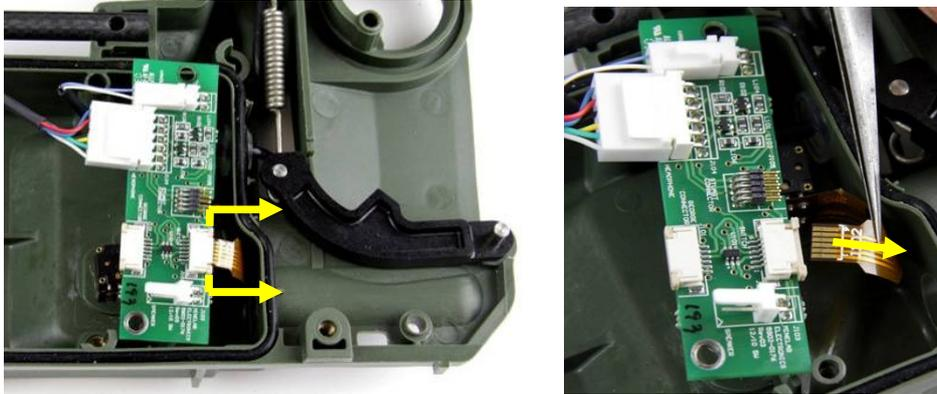

Figure 92: Disconnecting Six Way Ribbon Cable
- Identify the connector on the interface PCB that mates with the flexible ribbon cable of the control switches. Open the connector locking bail (slide out). As shown in Figure 92.